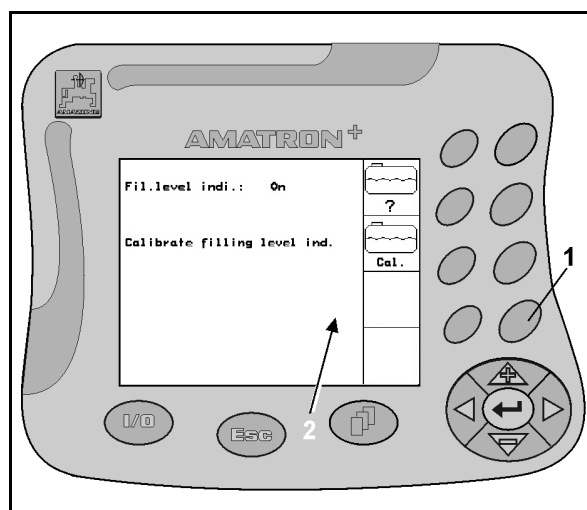

Fig. 17
1. Press key (Fig. 17/1) once.
2. Press key once again (Fig. 17/1).
→ In the display appears "off" and the function "comfort package" is switched off (Fig. 17/1) once.